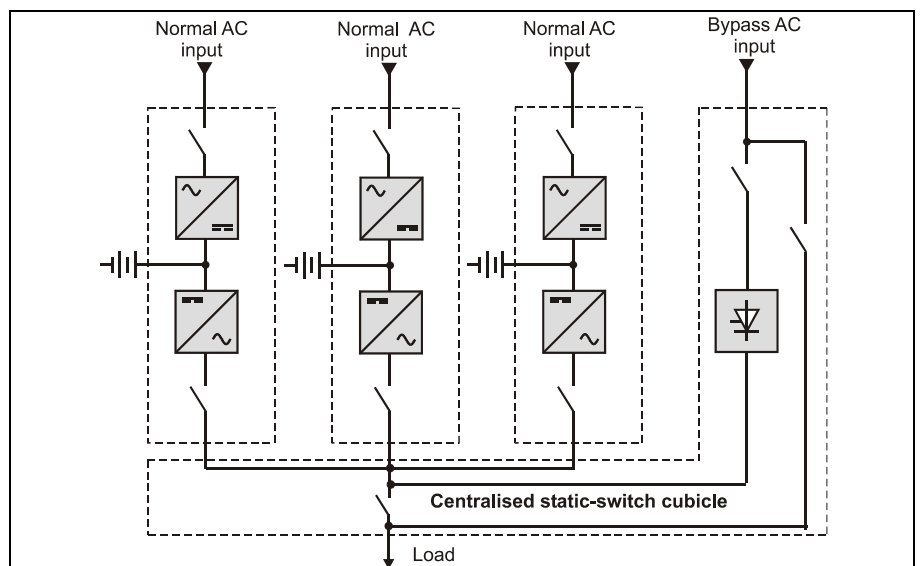

Fig. 2.4. Three parallel UPS units with a centralised static-switch cubicle (SSC).
- parallel UPS units with a centralised static-switch cubicle (SSC) (e.g. fig. 2.4).
The static-switch cubicle comprises an automatic bypass and a maintenance bypass that are common for a number of modules without a bypass (see fig. 2.4). It is possible to have two redundant SSCs.